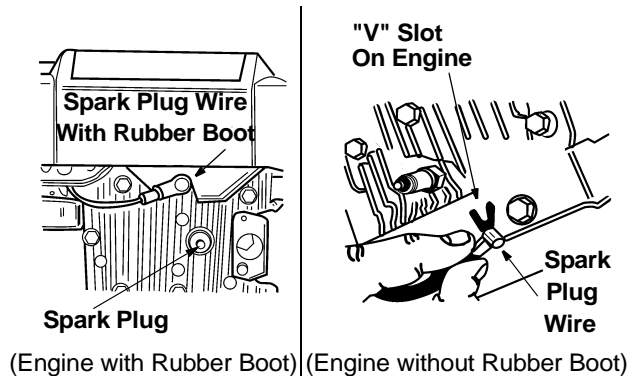

Figure 1
- Disconnect spark plug wire from the spark plug and ground it against the engine. On engines with a rubber boot, attach rubber boot to a bolt on the engine to ground. See Figure 1.